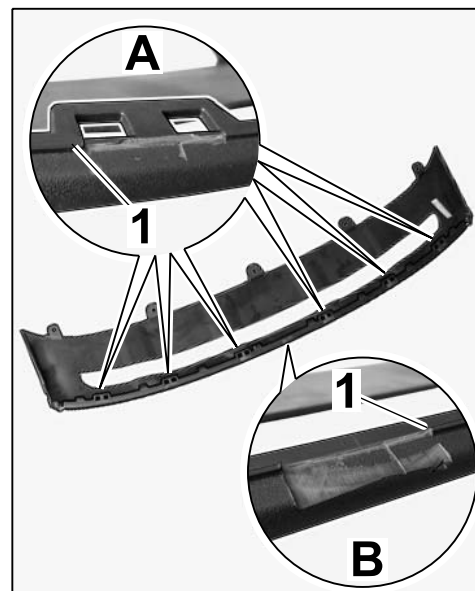

Figure 8
2.1.1 Remove edge on the front spoiler close to the six mounting points (⇒ *Figure 8 -inset A-*) and the center (⇒ *Figure 8 -inset B-*) using a cutter (Stanley knife).